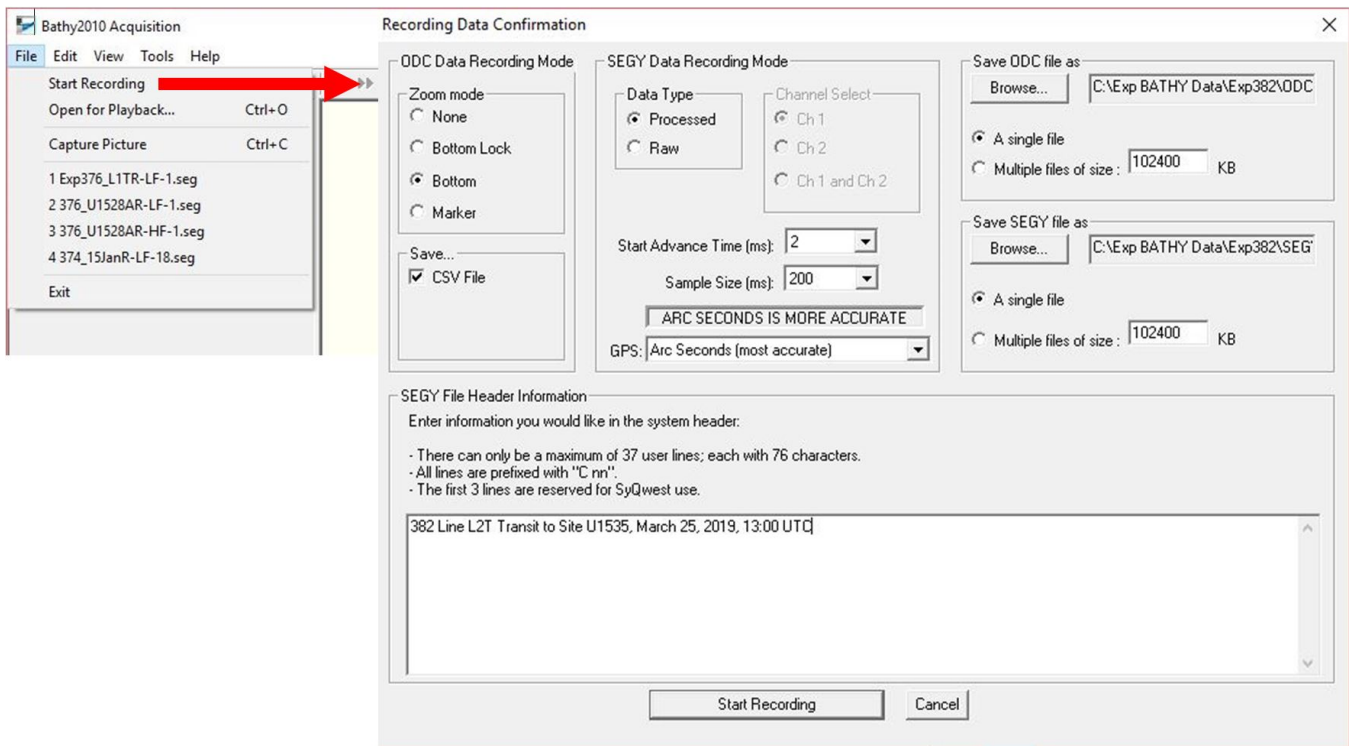

Figure 6 : Recording Data Confirmation
- From the **File** drop down menu select “**Start Recording**” and the Recording Data Confirmation window opens (Figure 6).
- Select the recording parameters as shown in Figure 6.